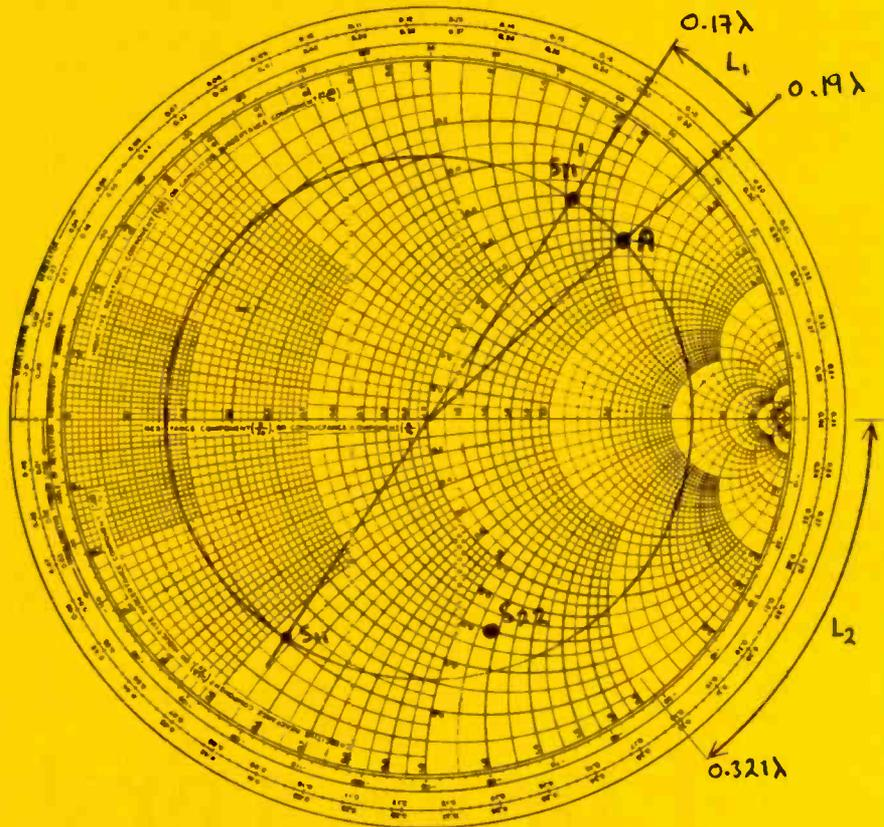

Fig.7. Calculation of a stub matching network. Reflection coefficients of the fet are used to find the required wavelengths.
The input and output reflection coefficients ( $S_{11}$  and  $S_{22}$ ) may be found listed on the device data sheet. These are first plotted onto a Smith chart (see Fig.7) and the following processes are executed:
4. Move around the constant v.s.w.r. circle to its nearest intersection with the unity conductance line (point A on Fig.7). Draw a radial line through this point to intersect the outer wavelengths circle and read off the value indicated. In this case 0.19 wavelengths. The difference between these values is the length of the line required in position  $L_1$ , ie 0.02 wavelengths.